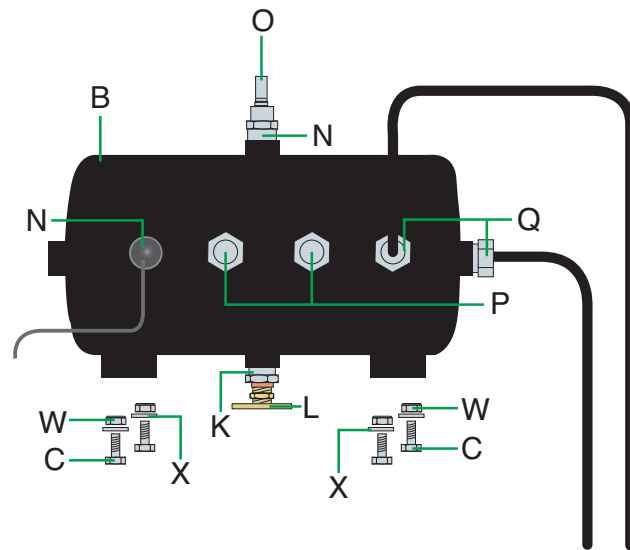

fig. 9
IMPORTANT: Depending on the orientation of the tank when it is mounted, the fittings may go into different ports on the tank. The drain valve must always be put into the port facing downwards (Fig. 9).
- Insert three 3/8" x 1/2" air fittings into the ports of the manifolds. There are two ports on one side and one port on the other (Figure 9).